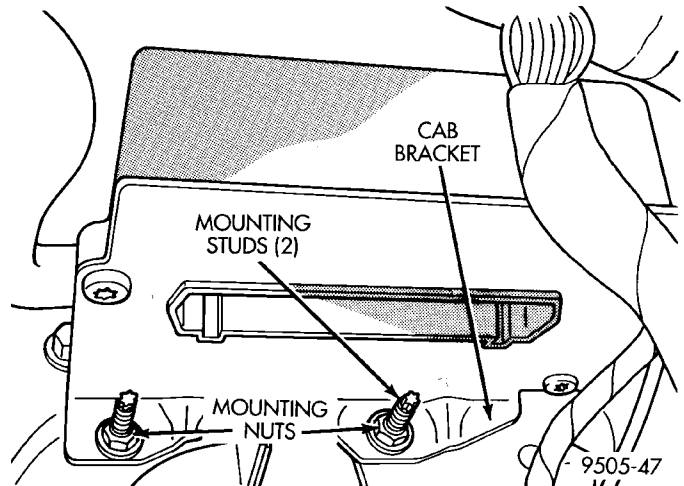

Fig. 29 CAB Bracket To Kick Panel Mounting
- (3) Remove the 2 controller bracket to drivers side cowl mounting nuts (Fig. 29).
- (4) Remove the CAB from the vehicle.
- (1) Install CAB and mounting bracket on mounting studs located on passenger side kick panel (Fig. 29).
- (2) Install the 2 CAB bracket mounting nuts (Fig. 29) and securely tighten.